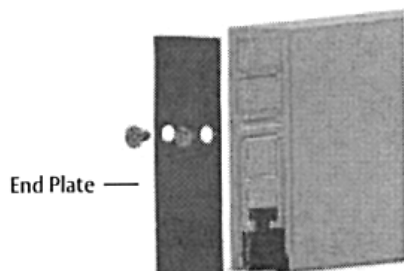

Figure 4 - Properly Installed End Plate
3. Install end plate (as shown in Figure 4) on end opposite plunger using the supplied screws. End plate "This Side In" sticker should be facing the Automatic Door Bottom and the Pemko Logo should be visible and facing outwards.